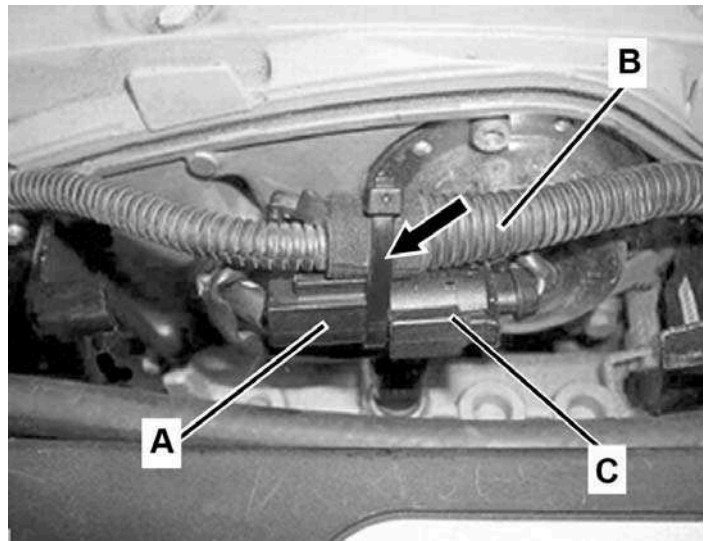

Figure 6
- Connect camshaft solenoid adapter harness to connector on camshaft solenoid and to engine harness connector (C, Figure 6).
- Secure adapter harness connector (A, Figure 6) to engine harness sheath (B, Figure 6) with cable tie (arrow).
Ensure cable tie (arrow, Figure 6) is secured to engine harness sheath (B, Figure 6) as shown otherwise wire chafing may occur.